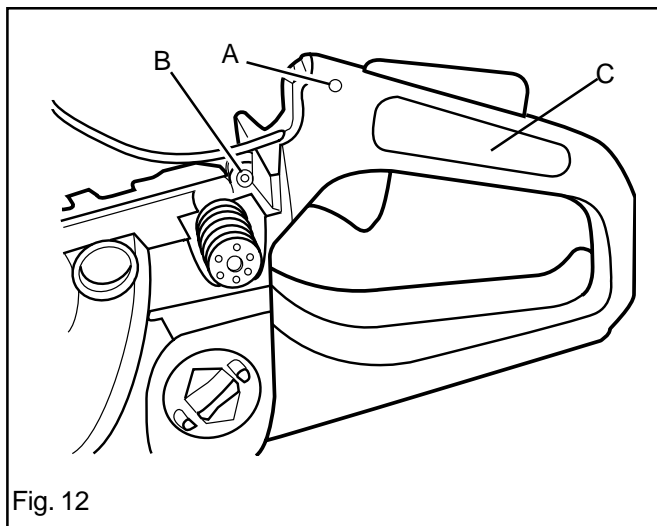

Fig. 12
1. Remove the hand grip insert (C). See fig.12.
2. Remove the throttle lock pivot (A) with the help of a driver. See fig. 12.
4. Remove the stop switch. Press out the throttle lever pivot (B) with a driver. See fig.12 and 15.
1. Fit the throttle cable and lever. Fit the throttle lever with pivot (B). See fig.12 and 15.
4. Fit the throttle lock pivot (A) with the help of a driver. See fig. 12.